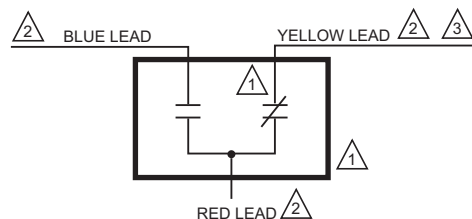

Fig. 11. Auxiliary switch schematic.
5. Refer to Fig. 6 for typical wiring, and Fig. 11 for internal auxiliary switch connections.
Motors with factory-added auxiliary switches are shipped in the closed position (fully counterclockwise, as viewed from the power end). Auxiliary cam default actuates the switches 30° from fully open with a 1° differential. With the motor in the closed (fully counterclockwise) position, the auxiliary switch breaks contacts R-B. See Fig. 11 (or the auxiliary switch Installation Instructions) for auxiliary switch wiring.